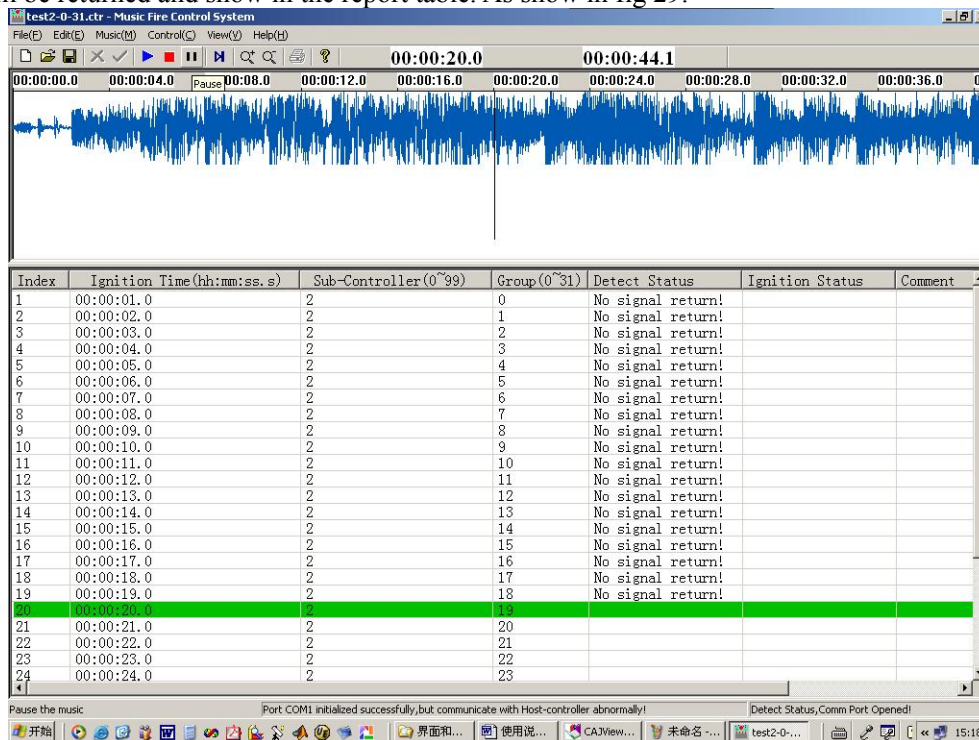

fig 29 Detection
9、Detection of Control points. Click the menu “Control” → “Detect”, the control system will enter the detection status. “Detect status, the Comm port is iopened” will show in the status bar in the right-bottom corner. Click the ”Play” button in the toolbar, the detection task will be performed so. The status of control points will be returned and show in the report table. As show in fig 29.